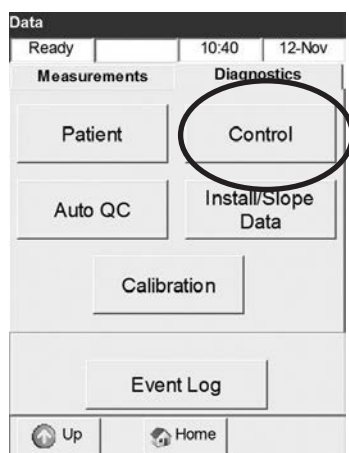

Fig. 7-44 Select Control
- To print a controls report, select **<Diagnostics ->Controls>** in the **<Data>** screen (Fig. 7-44).